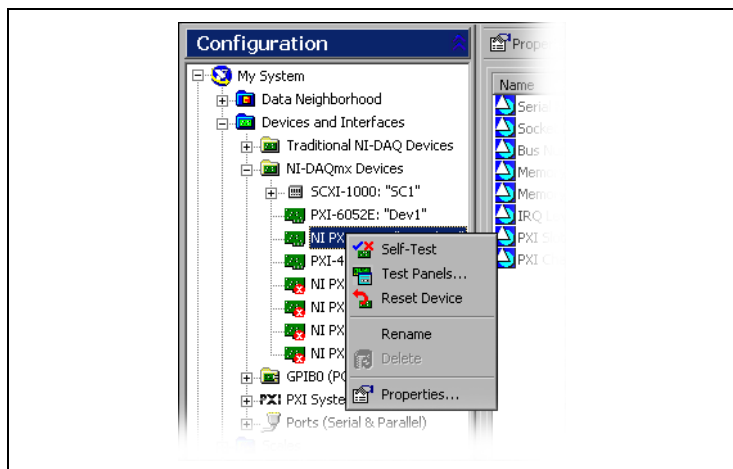

Figure 3. Configuration Tree Shortcut Menu
- a. Right-click the device you want to test and select **Self-Test**, shown in Figure 3.
Tip If you need to reset the device with a hard reset, you can do so by right-clicking the device and selecting **Reset Device** from the shortcut menu shown in Figure 3.
1. Right-click the device under NI-DAQmx Devices, and select **Test Panels** as shown in Figure 3.